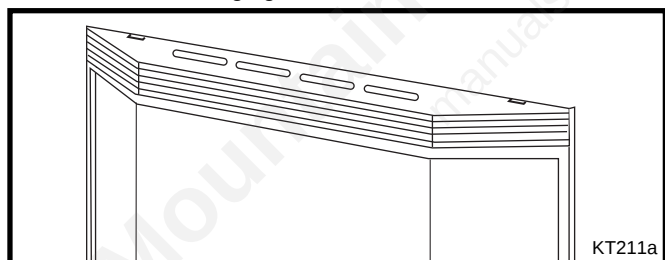

Fig. 65 Engage the slots in the upper grille top louvre with the upper tabs of the hanging brackets.
- Install top louvre by engaging the oblong holes with the upper tabs of the hanging brackets, as shown in Figure 65.